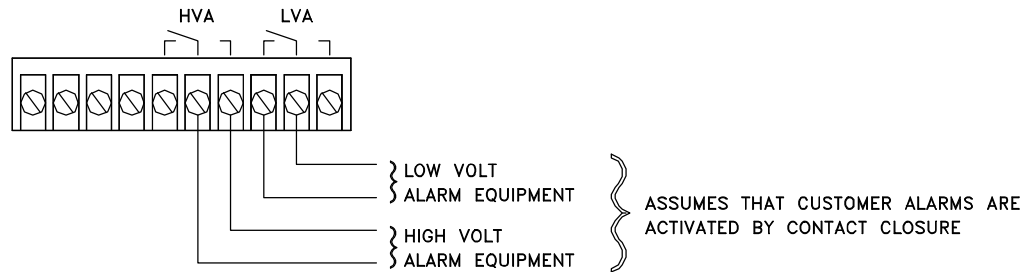

FIGURE 5
- * FOR ALARM BOARD OPTION, SEE FIGURE 5.